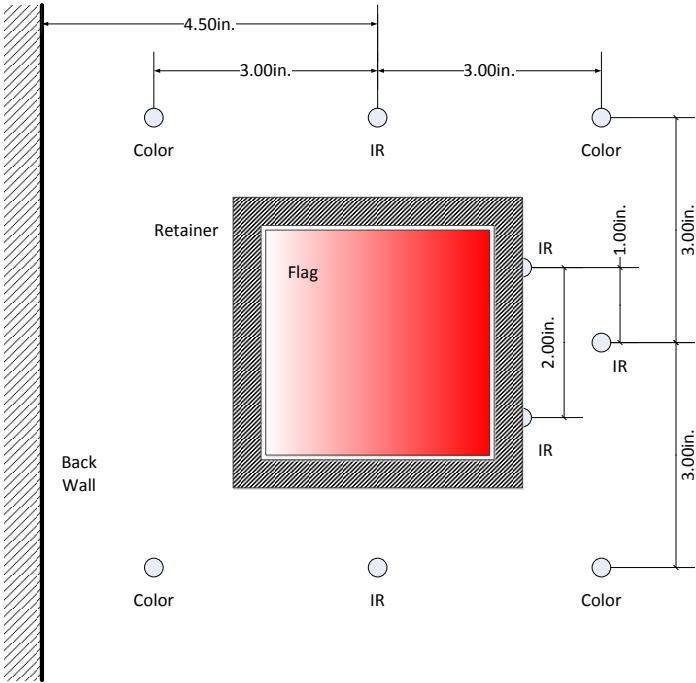

Figure 3: LED light placement centered around each retainer.
- f. Nine LEDs will be placed around each retainer as shown in Figure 3. Three will be IR lights, centered with each side of the retainer except the back. Four will be colored lights, blue or red depending on the alliance base it is in. They will be placed at the corners of the light formation. These seven LEDs will be placed in the floor so that their